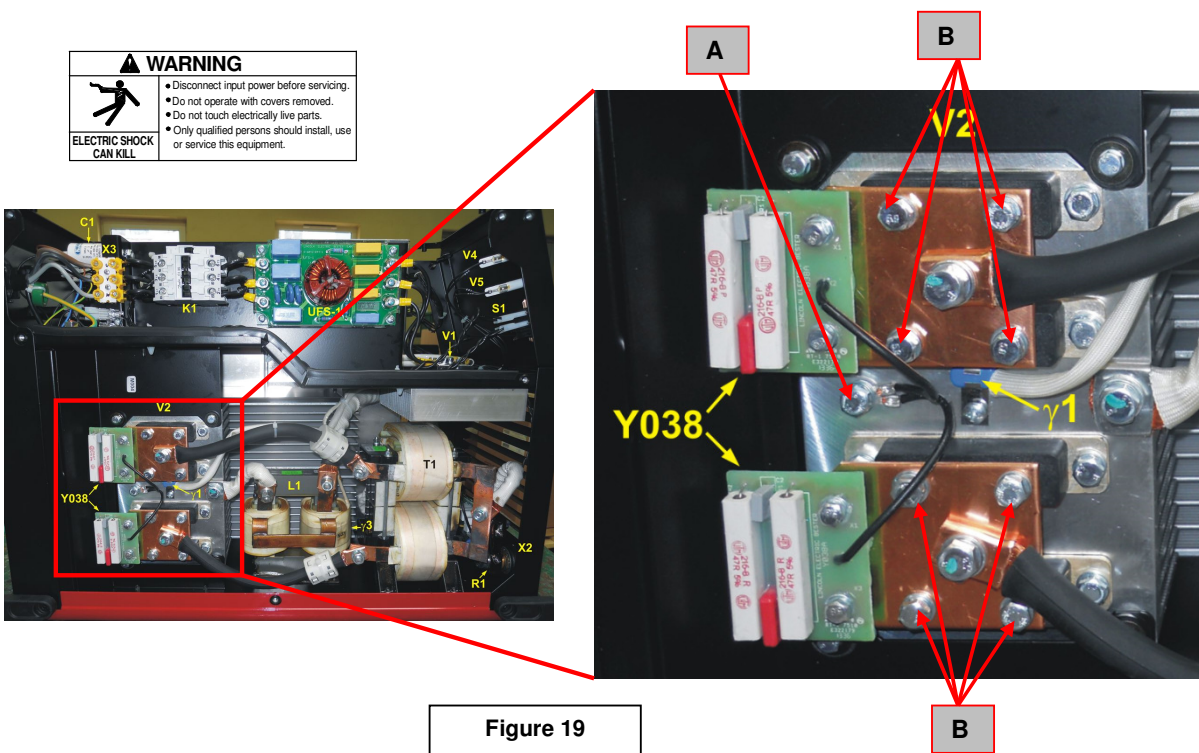

Figure 19
3. Locate the output diode modules. See **Figure 19**.
4. Using the 10mm nut driver unscrew the bolt (**A**) and remove the two leads coming from the Y038 boards. See **Figure 19**.
5. Using the 10mm wrench remove the 8 bolts (**B**) that are fixing the two square copper plates to the output diode modules. See **Figure 19**.